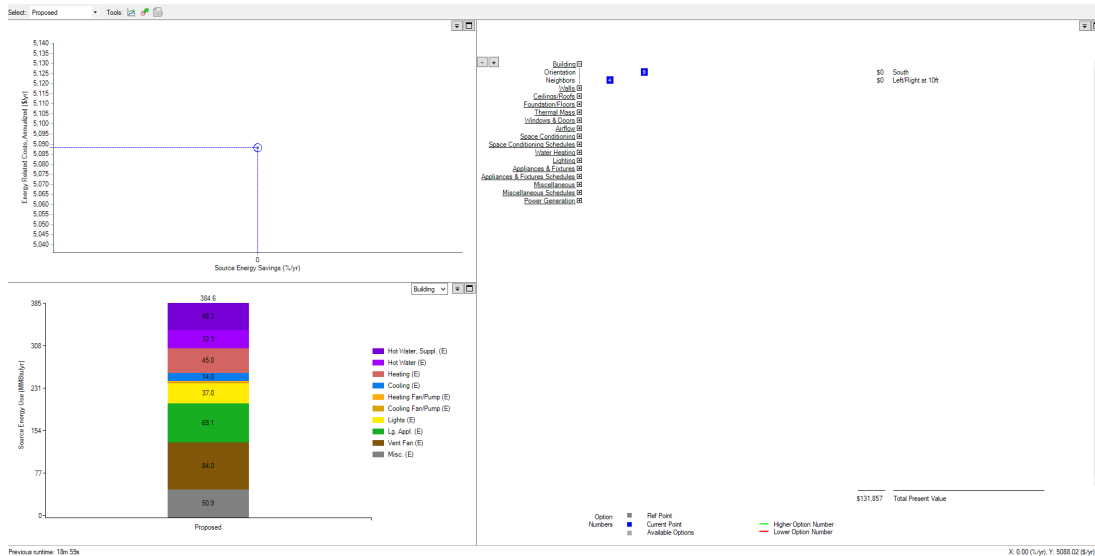

Figure 4: The BEopt Output Screen
- Figure 4 shows the **Output screen**.